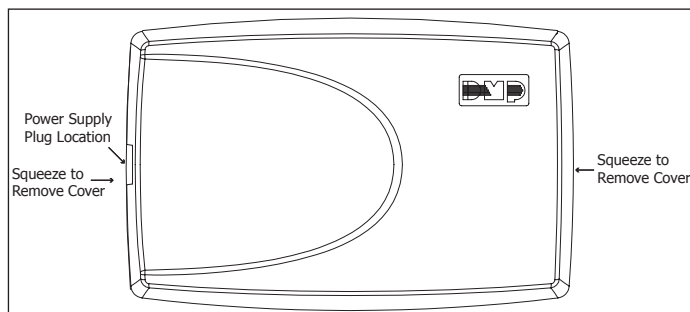

Figure 1: 1114 Wireless Four-Zone Expander
1. Squeeze the cover left and right sides together to remove. See Figure 1.
1. Squeeze the left and right cover sides together to remove. See Figure 1.